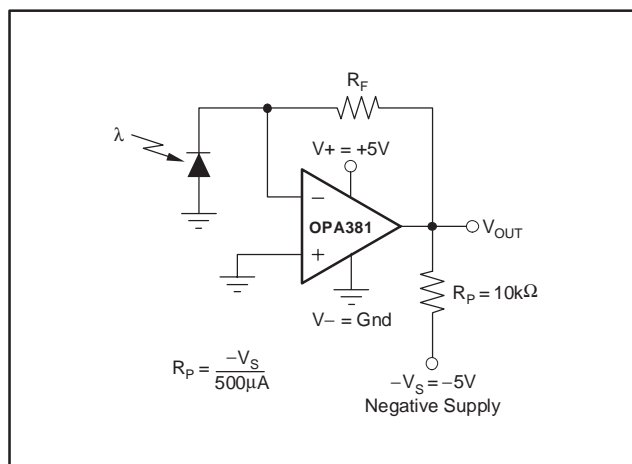

Figure 3. Amplifier with Pull-Down Resistor to Achieve $V_{OUT} = 0V$
- (1) High temperature operating life characterization of zero-drift op amps applying the techniques used in the OPA381 have repeatedly demonstrated randomly distributed variation approximately equal to measurement repeatability of $1\mu V$. This consistency gives confidence in the stability and repeatability of these zero-drift techniques.
- (2) Tested with output connected only to R_P , a pulldown resistor connected between V_{OUT} and $-5V$, as shown in Figure 3. See also **Applications** section, *Achieving Output Swing to Negative Rail*.
- (3) Transimpedance frequency of 250kHz.
- (4) Time required to return to linear operation.
- (5) From positive rail.
The OPA381 performance results from an internal auto-zero amplifier combined with a high-speed amplifier. The OPA381 has been designed with circuitry to improve overload recovery and settling time over that achieved by a traditional composite approach. It has been specifically designed and characterized to accommodate circuit options to allow 0V output operation (see Figure 3).
The output of the OPA381 can be made to swing to 0V, or slightly below, on a single-supply power source. This extended output swing requires the use of another resistor and an additional negative power supply. A pull-down resistor may be connected between the output and the negative supply to pull the output down to 0V; see Figure 3.